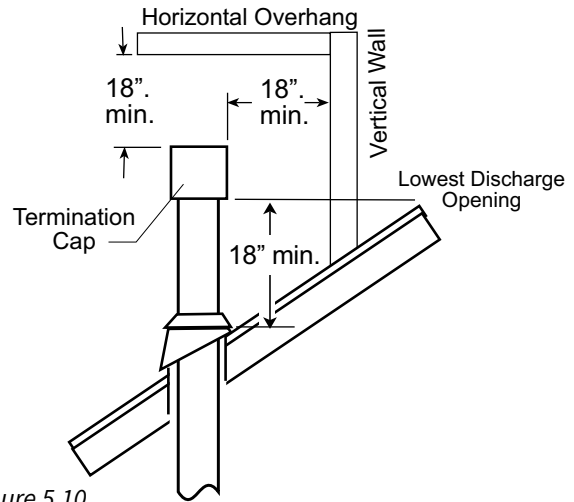

Figure 5.10. Vertical vent termination height above roof.
- **Vent Terminus Clearance:** In no case shall any discharge opening on the cap be less than 18 in. (457 mm) horizontally from the roof surface. See fig. 5.10.